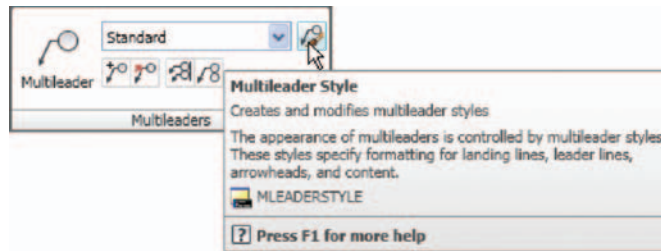

Fig. 21.5 Second example – **Multileader Style** icon in the **Annotate/Multileaders** panel
1. In the **Annotate/Multileaders** panel *click* the **Multileader Style** icon (Fig. 21.5). The **Multileader Style Manager** dialog appears. *Click* its **Modify...** button.